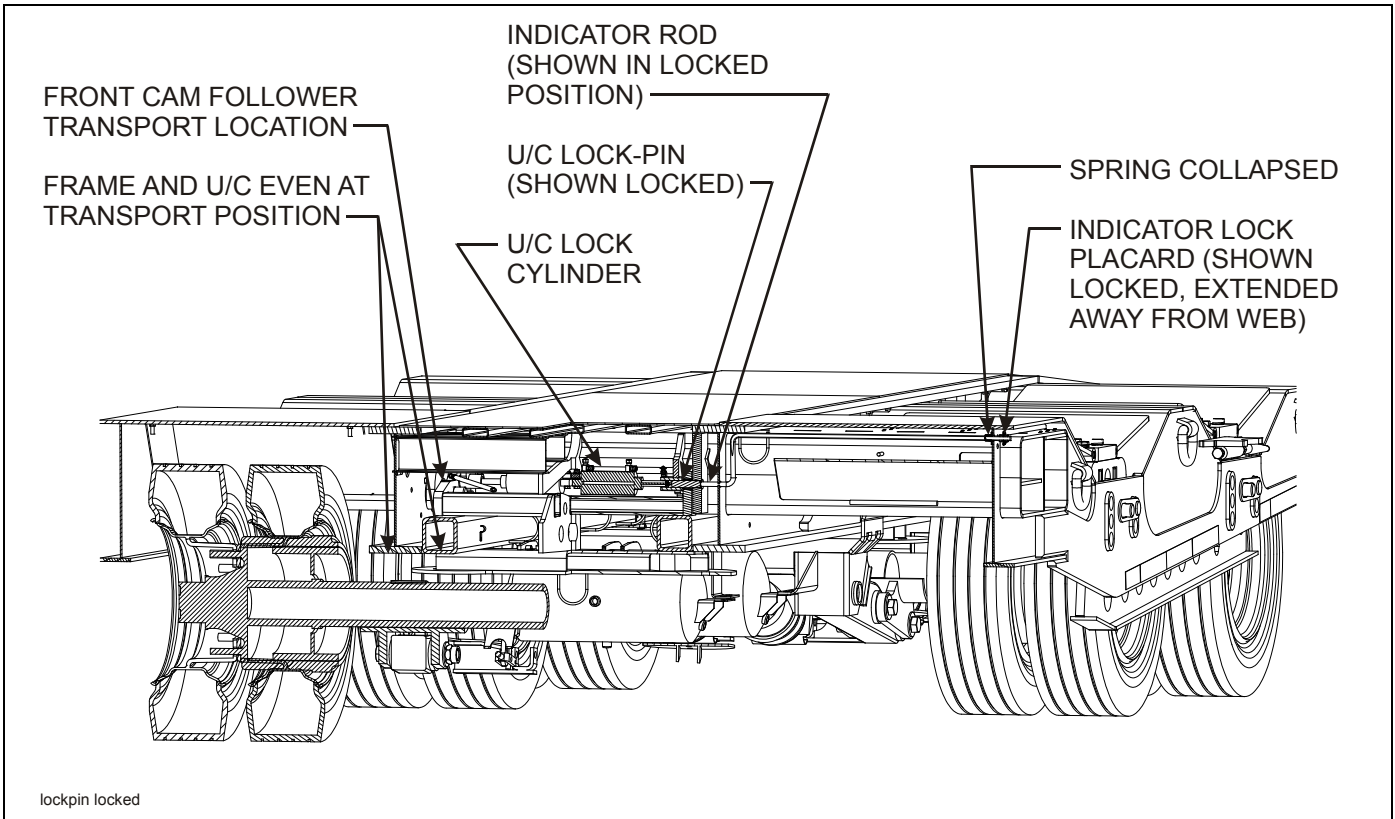

Figure 3-12: U/C Lock Pin in Locked Position
1. During transport position, the undercarriage lock cylinders will extend the lock-pins and push the indicator placards away from the outer beam web “LOCKED WHEN EXTENDED” (See Figure 3-12.) The undercarriage siderails will be even with the bottom of the frame main beams. The beams will actually sit on the cross-members of the undercarriage. A spring on the indicator rod, backside of the outer beam web will also be compressed at this time.